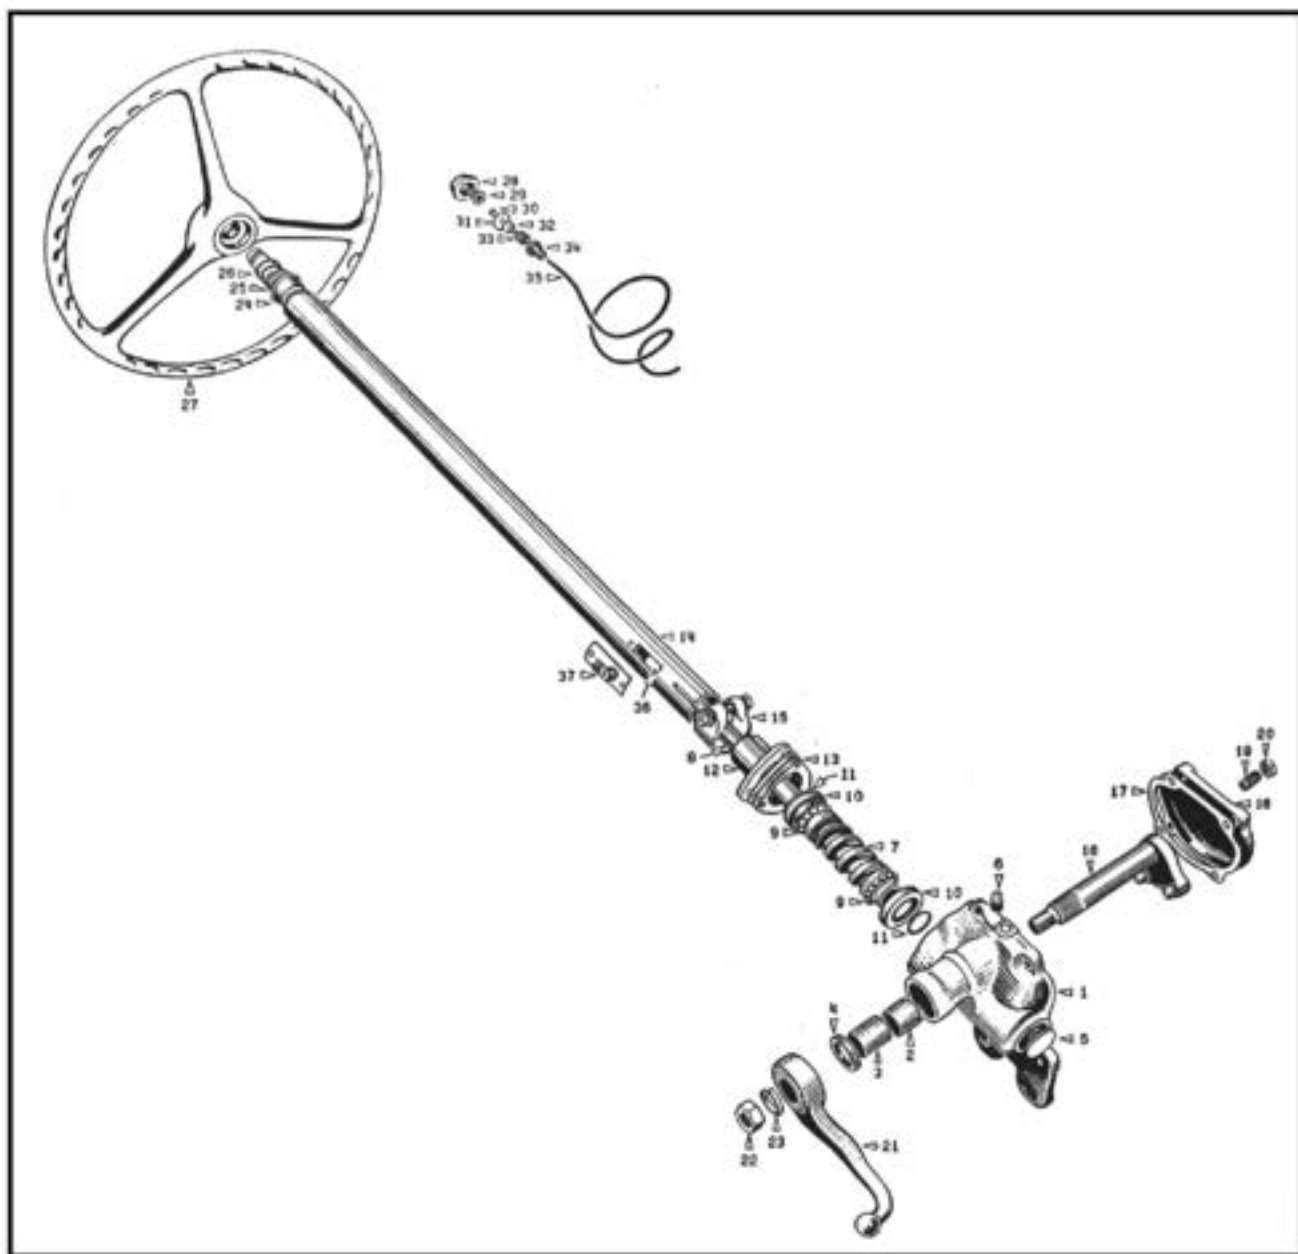

FIG. 1—STEERING GEAR
5. Remove horn wire contact brush, No. 37, Fig. 1.
First remove pitman arm No. 21, Fig. 1 with puller. Loosen lock nut No. 20 and unscrew adjusting screw No. 19 a few turns. Remove side cover screws and washers and remove side cover No. 18 with gasket. This will permit removal of lever shaft No. 16.